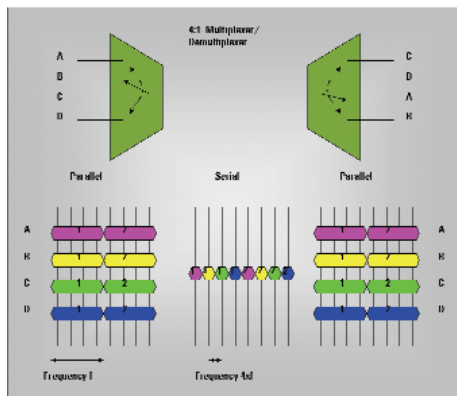

Figure 1: Mux/Demux Application
Mux/Demux is an important part of communication. They are responsible for transmitting information, either electrical or optical, on one data link. On the transmitter side (TX), the information is collected and put on one line with speeds of 4, 7, 10 or 20 times faster than on the parallel side, with the help from the MUX circuitry. On the receiver side (RX), the DEMUX circuitry will receive the high-speed data and converts it to a parallel bus so that following protocol Asics can process it. Figure 1 is an example of a 1:4 implementation, thus, the frequency on the serial side is 4 times faster.